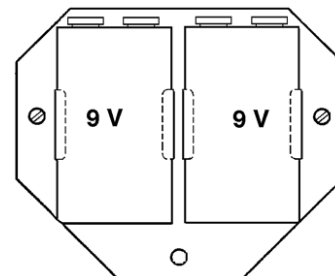

Figure 10
9. Replacement of batteries – Remove the cover. Insert new batteries by changing one after the other and reassemble the totalizer (Figure 10).